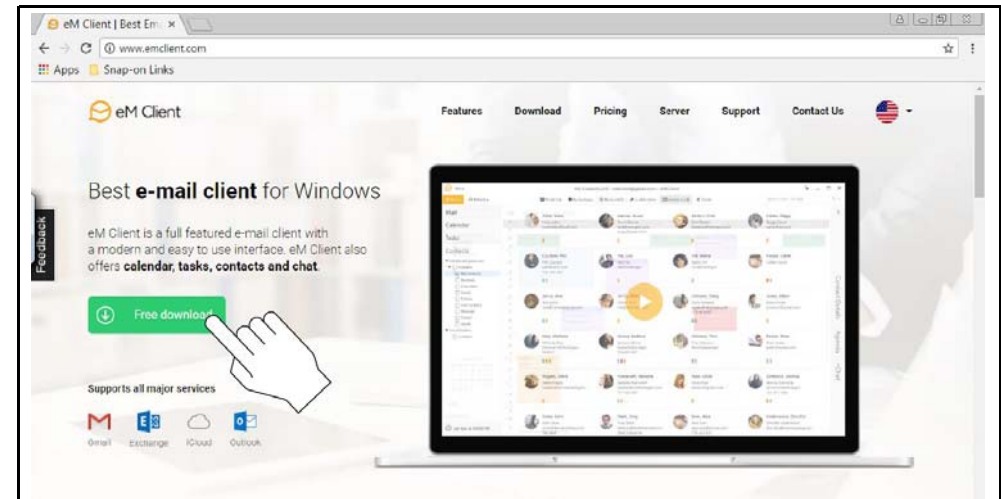

Figure 1-10
1. Download an email client (e.g. eM Client) (Figure 1-10).